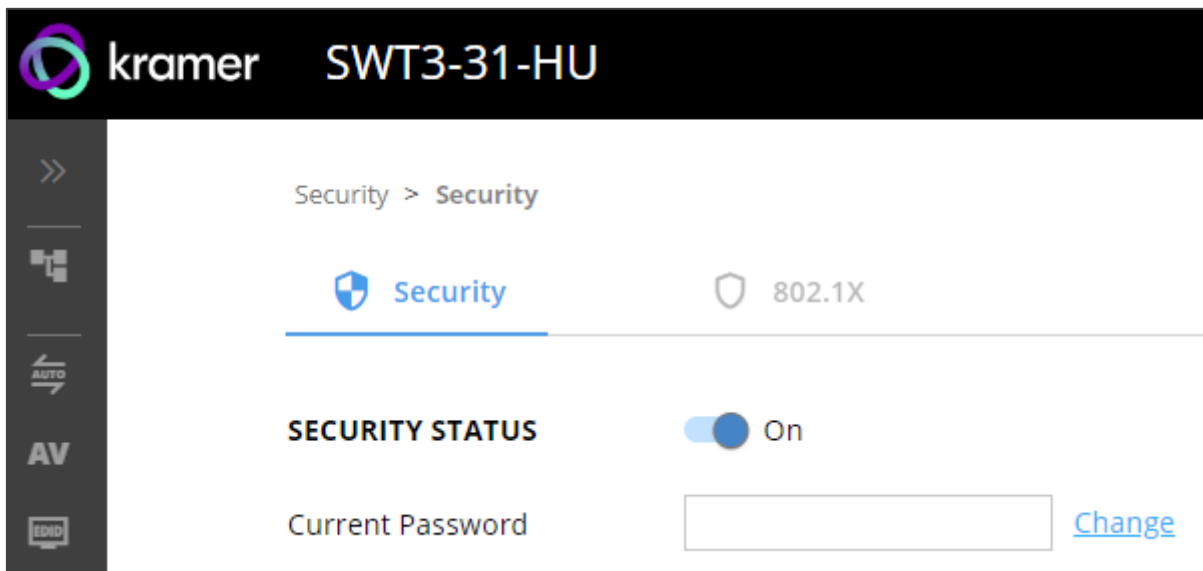

Figure 38: Security – Security Tab
1. Go to the Security page (Figure 38).
1. Go to the Security > Security (Figure 38).